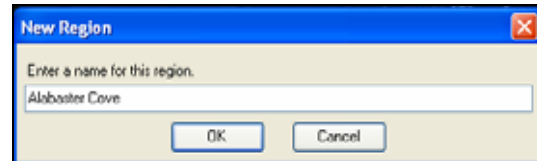

Figure 33.2.2
2. Type the name that you have chosen for the region in the box provided (Figure 33.2.2).